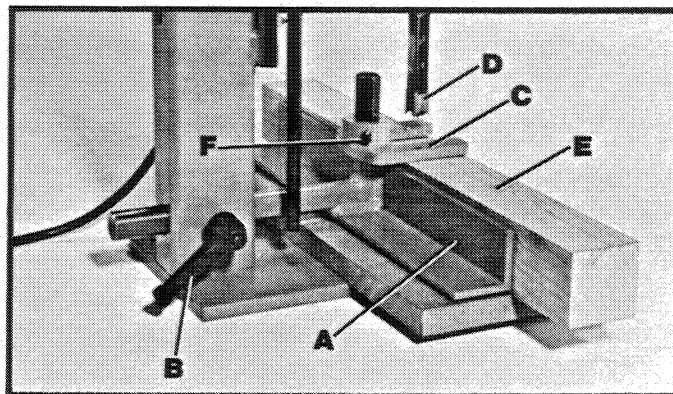

Fig. 23
The fence (A) Fig. 23, can be moved in or out by loosening lever (B), sliding fence to the desired position and tightening lever (B). **NOTE:** Lever (B) is springloaded and can be repositioned by pulling out on the lever and repositioning it on the serrated nut located underneath the lever.
The purpose of the holddown (C) Fig. 23, is to prevent the workpiece (E) from lifting as the chisel (D) is raised up, out of the hole. The holddown (C) should be adjusted so it just touches the top of the workpiece (E) and allows the workpiece to slide left or right. The holddown (C) can be turned upside down to accommodate thicker workpieces. To adjust the holddown (C), loosen screw (F), position holddown, and tighten screw (F).